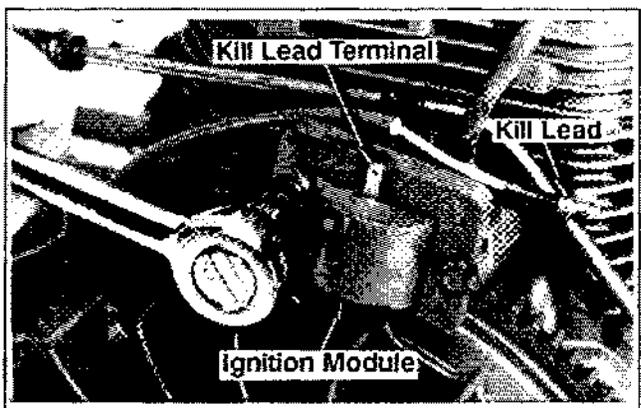

Figure 9-21. Removing Ignition Module.
1. Disconnect the kill lead from the ignition module terminal. See Figure 9-21.